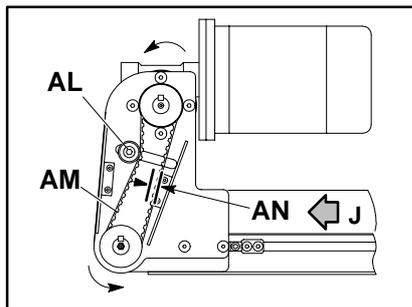
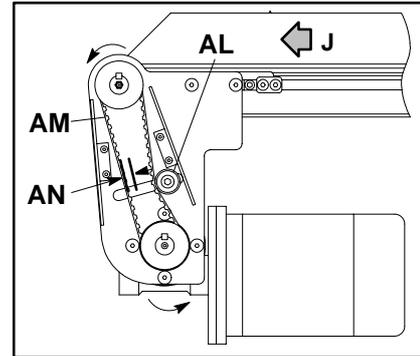

Figure 17: Top Mount Package
Figure 19: Bottom Mount Package
NOTE: The following information applies to both top (Figures 17 & 18) mounting and bottom mounting (Figures 19 & 20) packages. The position of the tensioning bearing assembly (AL) with respect to the timing belt (AM) is dictated by the direction of conveyor belt travel (J).